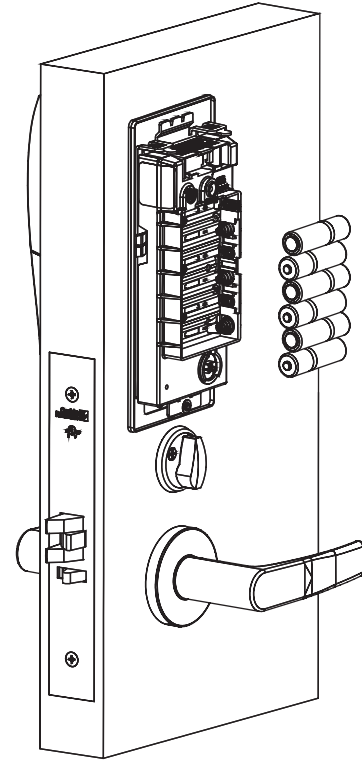

Fig. 18
- a. Place (6) “AA” alkaline batteries in the compartment, being careful to align polarity properly (Fig. 18).